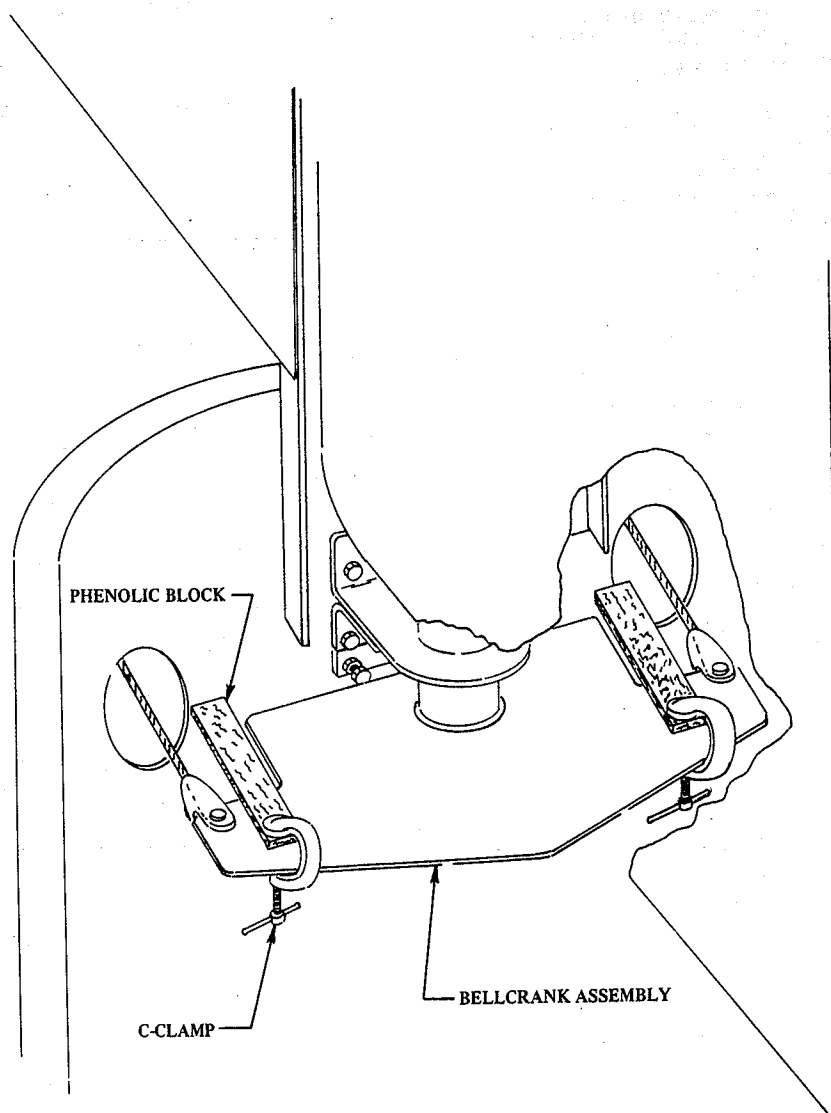

FIGURE 5-1 RUDDER RIGGING
1. Position the rudder at  $0^\circ \pm 2^\circ$  as indicated by a rudder rigging fixture. Secure the rudder in this position (Figure 5-1 shows one recommended method).